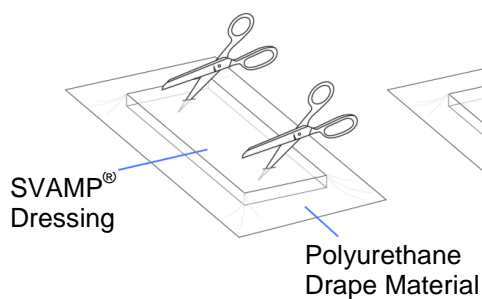

Fig. 1
11. Cut two 1 cm diameter holes in the top of the drape at both ends of the dressing (see Fig. 1).